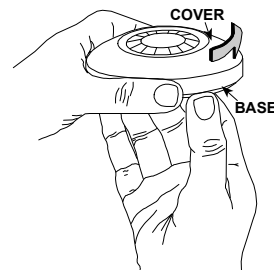

Figure 2 - Removing the Cover
- C. Hold the unit base as shown in Figure 2. Rotate the cover counter clockwise until it stops. Separate the cover from the base.